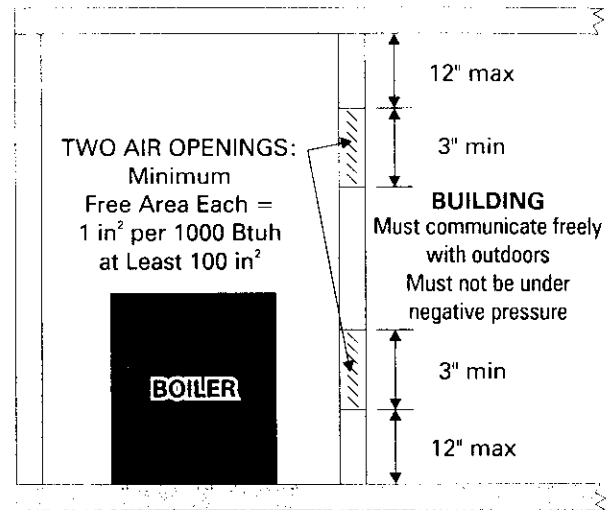
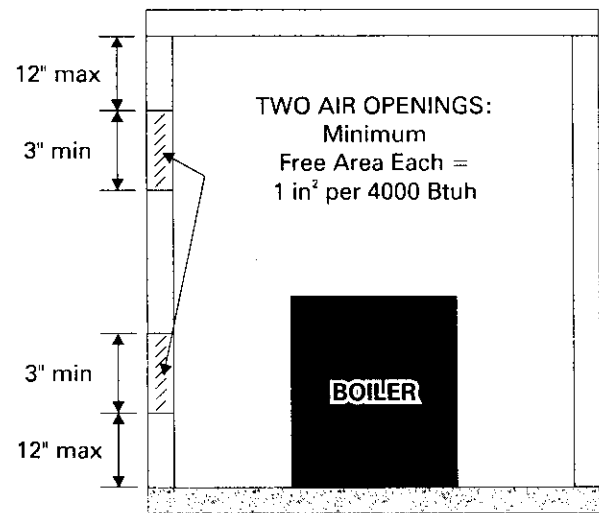
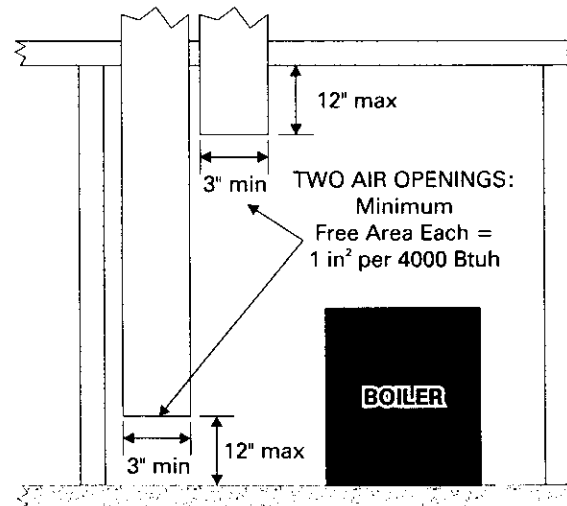

Figure 1: Air Openings - All Air from Indoors
Figure 2: Air Openings - All Air Directly from Outdoors
Figure 3: Air Openings - All Air from Outdoors through Vertical Ducts
Size each opening with a minimum free area of one square inch per 1000 Btu/hr. of the total rating of all gas utilization equipment in the confined space, but not less than 100 square inches. Begin with one opening 12 inches from the top, and begin the other opening within 12 inches of the bottom of the enclosure. See Figure 1. Provide air openings with minimum dimensions not less than three (3) inches.
- b. All air from outside the building. Connect the confined space with the outdoors in accordance with methods i) or ii) below. Provide air openings with minimum dimensions not less than three (3) inches. Where ducts are used, make certain that they are the same cross-sectional area as the free area of the openings to which they connect.
Where directly communicating with the outdoors (see Figure 2) or where communicating to the outdoors through vertical ducts (see Figure 3), size each opening with a minimum free area of one (1) square inch per 4000 Btu/hr. of total rating of all equipment in the enclosure.